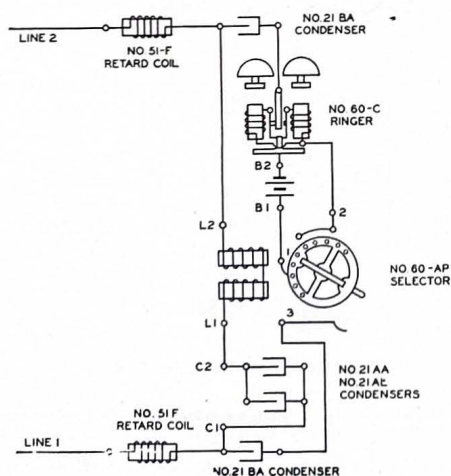

Fig. 1—No. 160-AC Selector Set
**No. 160-AC SELECTOR SET (see Schematic wiring Fig. 1.)**